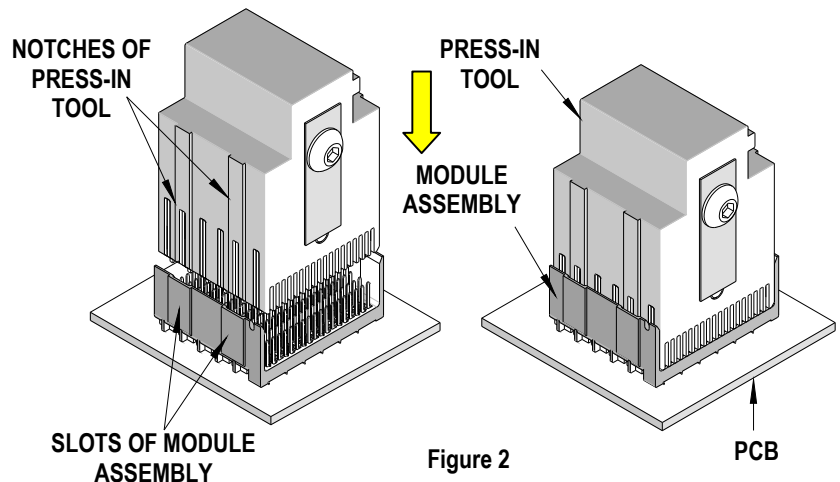

Figure 2
2. Insert the Press-In Tool making sure that the notch in this tool is inserted into the slot on top of the connector housing of the backplane signal module assembly. See Figure 2.